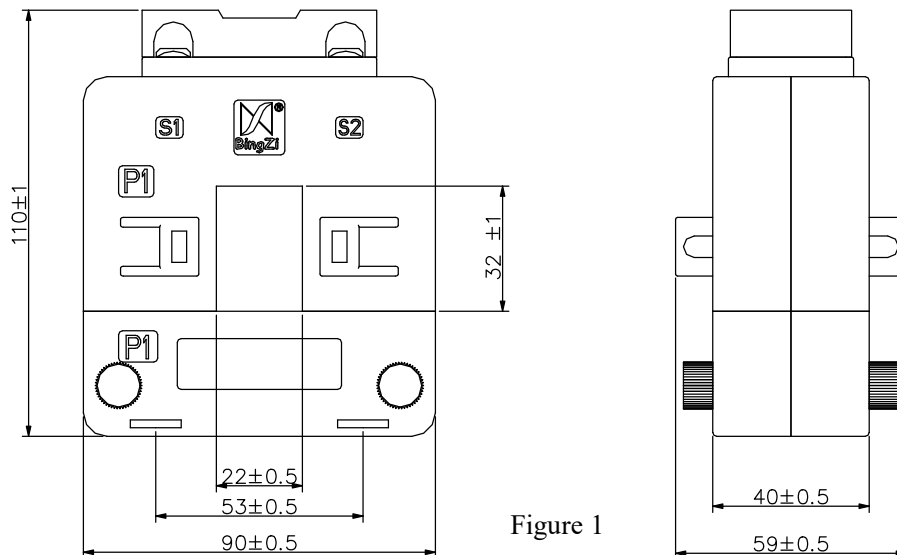

Figure 1
- ① Insulation resistance: $>1000\text{M}\Omega$ in normal condition;
- ② Insulation withstand voltages: $6\text{KV } 50\text{Hz}/1\text{ min}$;
- ③ Fire retardancy: In conformity with UL94-V0
- ① The outline drawing and installation dimension are shown in Figure 1